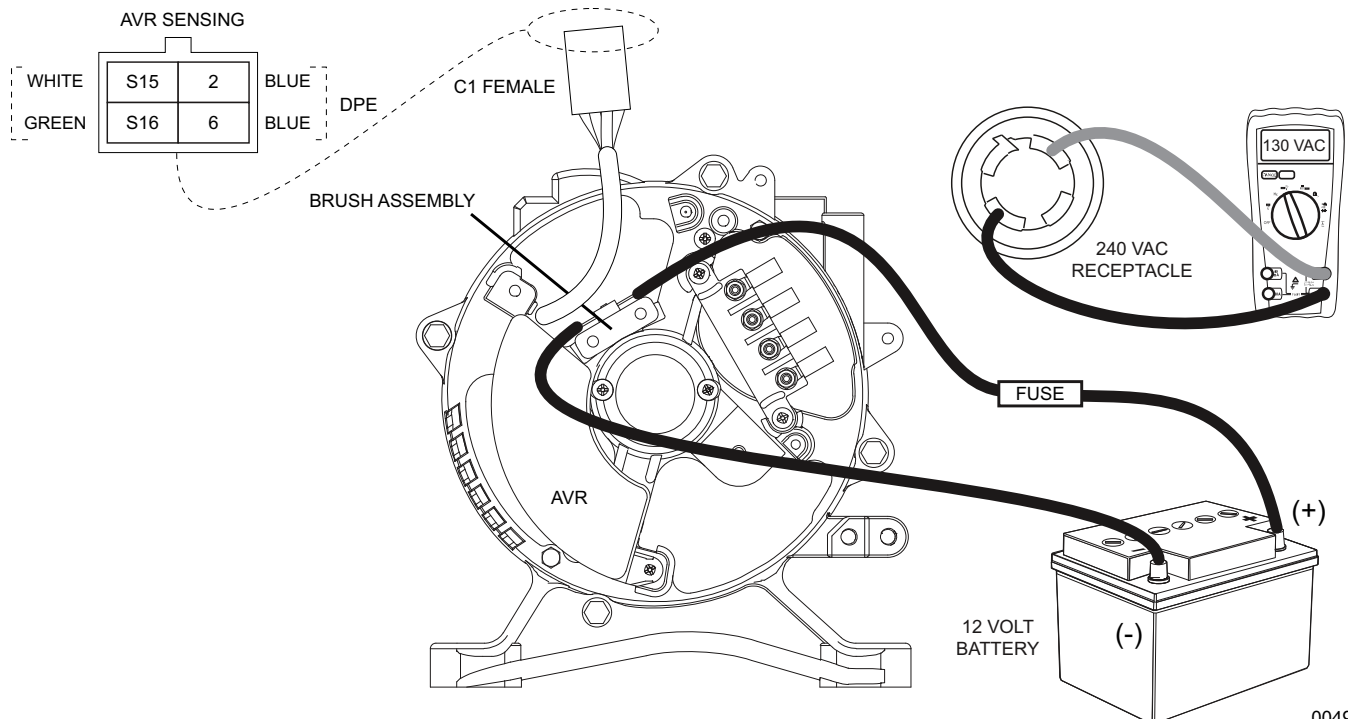

Figure 3-4. Jumper Wires Between Battery and Brush Assembly
5. See **Figure 3-4**. Connect meter test leads across the 240 VAC receptacle so the leads read line-to-line voltage.